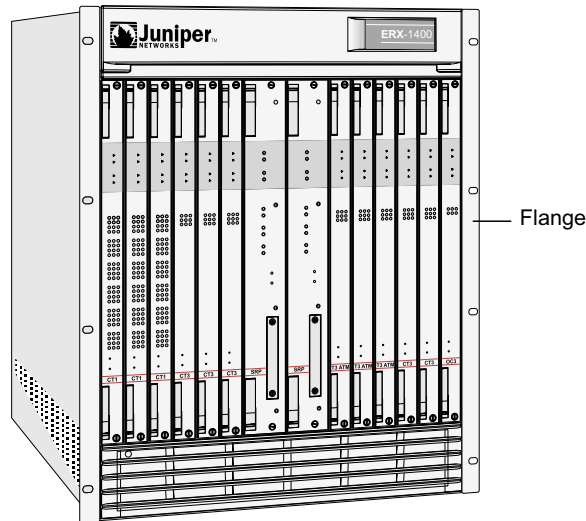

Figure 2-4 ERX-1400 series front view
- 2 Grasp the lower back of the unit with one hand and the front flange (see Figure 2-4) with the other.
- 3 Grasp the lower back of the unit with one hand and the lower front of the unit (see Figure 2-4) with the other hand.